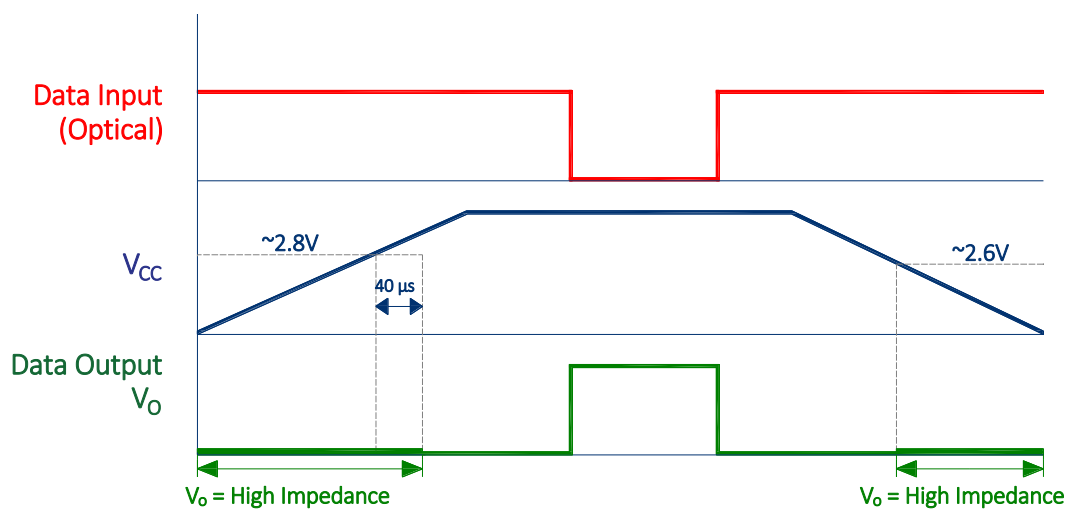

**FIGURE 2** RedLink® receiver application circuit
- a) Pin 4 is electrically isolated internally. Pin 4 may be externally connected to pin 1 for board layout compatibility with existing designs. Otherwise, it is recommended pin 4 be grounded as in Figure 2